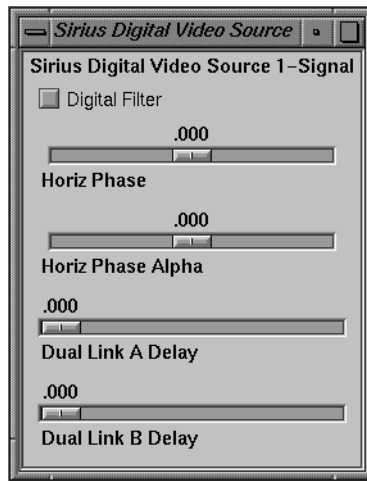

Figure C-4 Digital Video Source Signal Controls
5. To adjust horizontal phase for each digital video channel and its separate alpha line, if used, select “Digital Video Source 1” or “Digital Video Source 2” in the Pro menu, and then select “Signal Controls,.” The Sirius Digital Video Source [1, 2] window appears, as shown in Figure C-4.